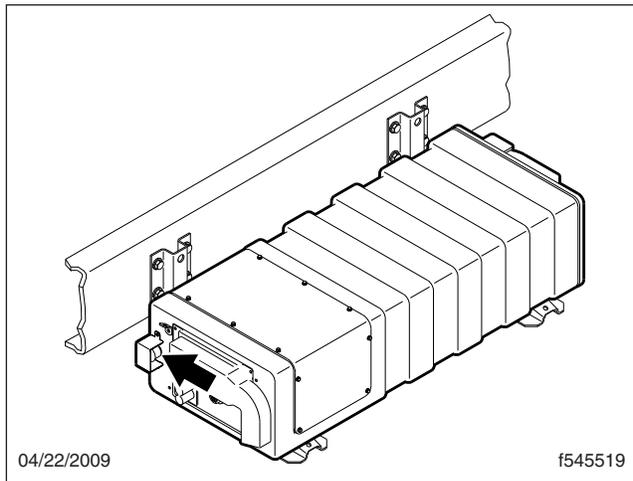

Fig. 1, Service Switch
- 1.1 Locate the red PEC service switch on the front of the PEC and push the switch in to the "Off" position. See Fig. 1.